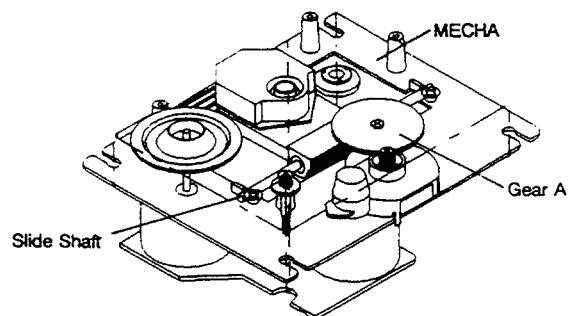

Fig. 5
3. Remove the gear A (See Fig. 5).